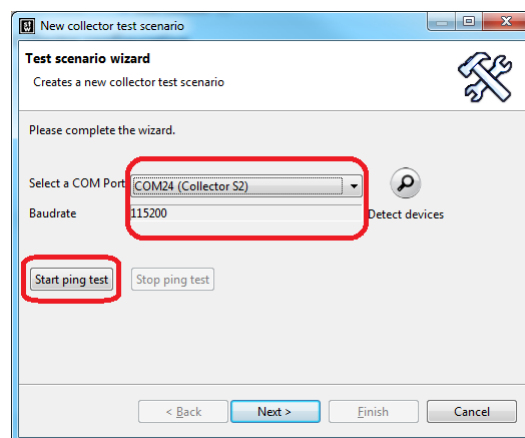

Figure 3.19: Start ping test
4. The wizard shown in figure 3.19 pops up. Configure the COM port settings to the correct COM port. Then press 'Start ping test'.